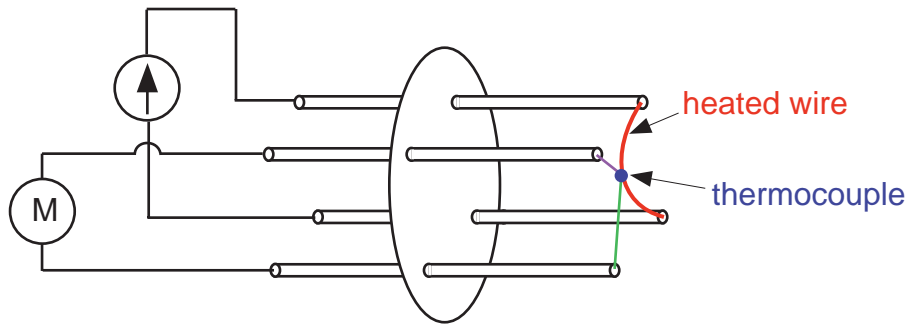
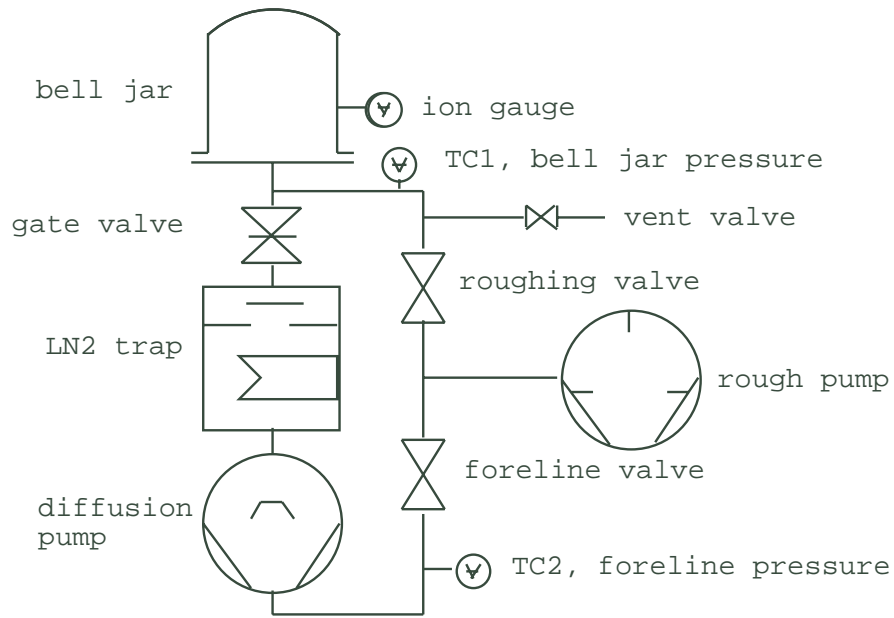

Figure 28: Thermocouple gauge.
Figure 30: Varian vacuum evaporation system used in our lab.
vacuum chamber, we interpose two baffles between the chamber and pump (see Figure 30). These baffles consist of cooled metal chevrons, which do not allow any line-of-sight paths to the chamber. Almost all oil molecules diffusing upward will collide and stick to one of these baffles. It is important to realize diffusion pumps work only at low pressures (below about 10 mTorr) where the mean free paths are fairly large. If the pump intake is exposed to high pressure (≥ 100 mTorr) for any length of time serious damage will result. At these pressures large amounts of oil will be carried into the process chamber, and the oil in the pump will begin to burn. Because of this the pressure in the foreline should never exceed about 500 mTorr (i.e., $TC2 \leq 500$ mTorr in Fig. 3 at all times).
We use two different types of gauges to measure the pressures in our vacuum system. The first is the thermocouple (TC) gauge (Figure 28), used to measure pressures greater than 1 mTorr. There are two TC gauges, one in the foreline (TC2 in Figure 30), and one on the bell jar (TC1 in Figure 30). The operating principle used by these gauges is the relation between gas pressure and gas thermal conductivity. They consist of a hot filament surrounded by a cylinder. A thermocouple is used to measure the temperature of the filament; as gas pressure increases, more heat is transferred from the filament to the cylinder, and the thermocouple gauge output voltage registers the subsequent temperature drop. Thermocouple gauges are quite rugged, and are widely used, although fairly inaccurate.
Varian Vacuum System Operating Procedure (see Figure 30)